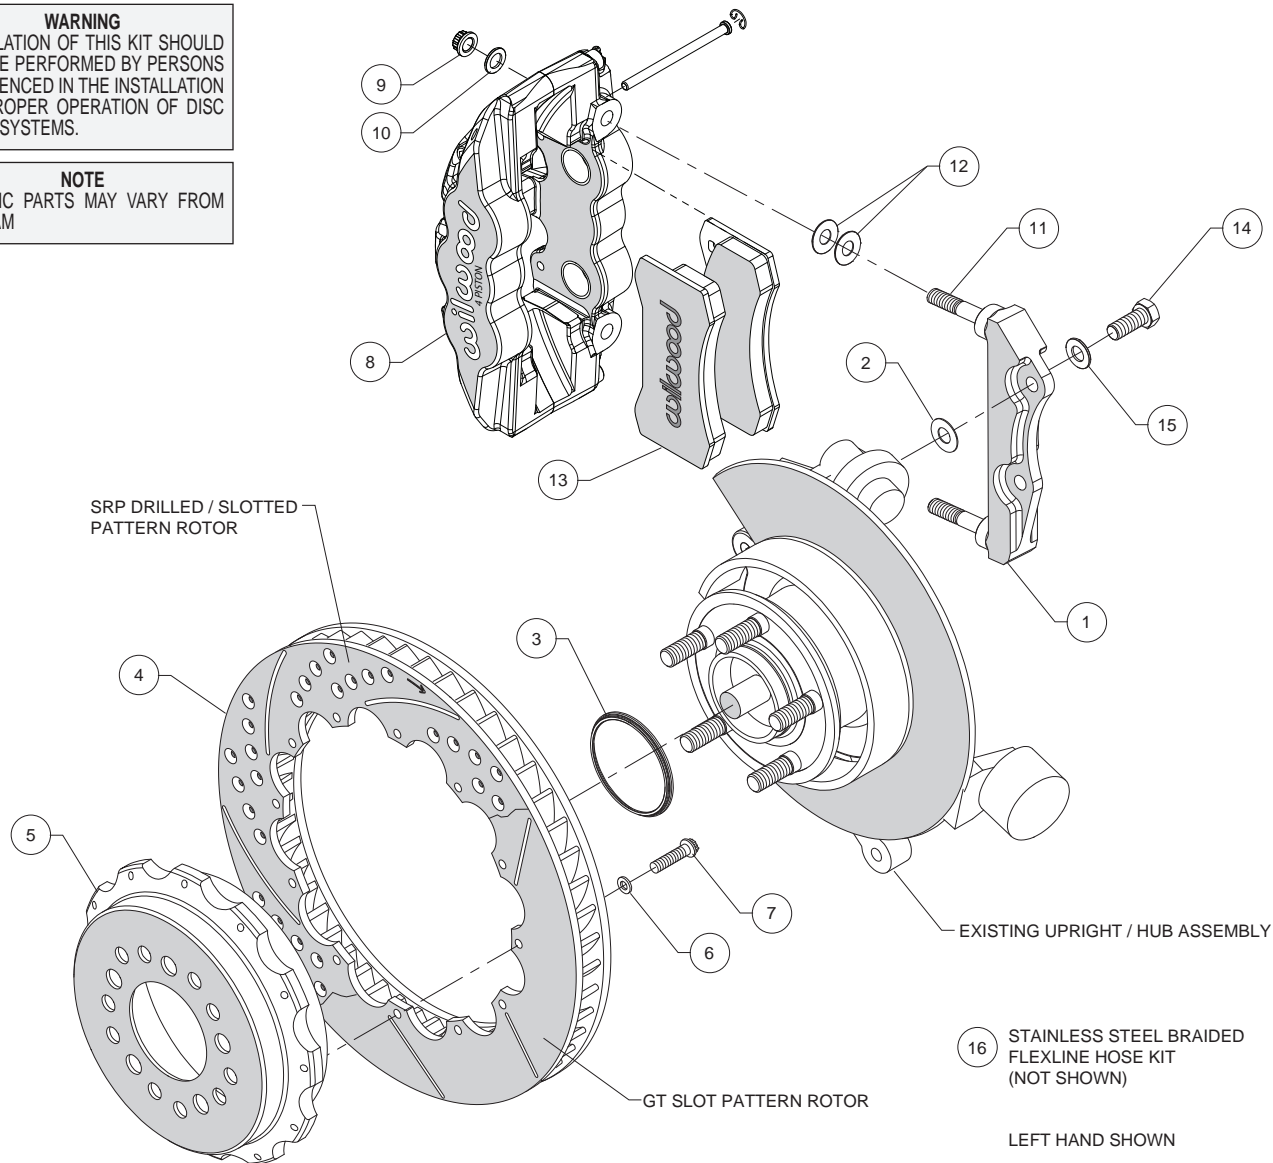
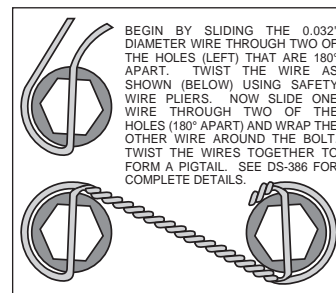

Figure 1. Typical Installation Configuration
Figure 3. Safety Wire Diagram
Assembly Instructions (numbers in parenthesis refer to the parts list and Figure 1 on the preceding pages):
- The caliper mount bracket (1) should initially be installed with clean, dry threads on the mounting bolts. Orient the bracket as shown in Figure 1 and install using bolts (14) and washers (15), Figure 1. Initially place one .033" thick shim (2) on each bolt between the bracket and upright, Figure 1. Temporarily tighten the mounting bolts. **NOTE:** *The bracket must fit squarely against the mount bosses on the upright.* Inspect for interference from casting irregularities, machining ridges, burrs, etc. Later, after the caliper alignment has been checked, the mount bolts will be secured using red *Loctite*® 271.
- Orient the rotor (4) and the hat (5) as shown in Figure 1 and Photo 1. Attach rotor to hat using bolts (7) and washers (6). Using an alternating sequence, apply red *Loctite*® 271 to the threads and torque bolts to 155 **in-lb**. For an added measure of security, the bolts may be safety wired using standard 0.032 inch diameter stainless steel safety wire as shown in Figure 3. Please refer to Wilwood's data sheet DS-386 for complete
- Slide the rotor registration adapter (3) onto the axle register on the axle hub with the smaller O.D. facing outward, Photo 2. Slide the hat/rotor assembly onto the axle hub. **NOTE:** *The hat must fit flush against the axle hub flange or excessive rotor run out may result.* Install three lug nuts (finger tight) to keep the hat/rotor assembly in place while continuing with the installation.
- Lubricate the caliper mounting studs (11) with lightweight oil. Initially place two .030" thick shims (12) on each stud between the caliper and the bracket, as shown in Figure 1 and Photo 3. Mount the caliper (8) onto the bracket (1) using lock nuts (9) and washers (10), Figure 1. Temporarily tighten the lock nuts and view the rotor through the top opening of the caliper. The rotor should be centered in the caliper, Photo 4. If not, adjust by adding or subtracting shims (2) between the bracket and the upright. Always use the same amount of shims on each of the two mounting bolts. Once the caliper alignment is correct, remove the bracket mounting bolts one at a time, apply red *Loctite*® 271 to the threads, and torque to 60 ft-lb.
- Remove the two pad retaining pins from the caliper (8) by carefully popping out the pin retaining clips and sliding out the pins. Insert the brake pads (13) into the caliper from the bottom, Figure 1 and Photo 5. With the friction material facing the rotor, secure the brake pads in place with the pad retaining pins and clips, Photo 6. Reinstall the caliper onto the caliper mounting bracket and temporarily tighten the lock nuts. Check that the top of the brake pad is flush with the outside diameter of the rotor, Photo 7. If not, adjust by adding or subtracting shims (12) between the caliper and the bracket. After the caliper pad height is set, torque the caliper lock nuts (12) to 47 ft-lb.